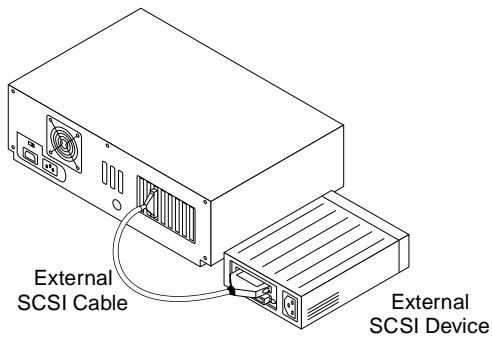

Figure 2-9. External Cable to External SCSI Device
- 2 Attach the connector at the other end of the external cable to either one of the SCSI connectors on the external SCSI device, as shown in Figure 2-9.